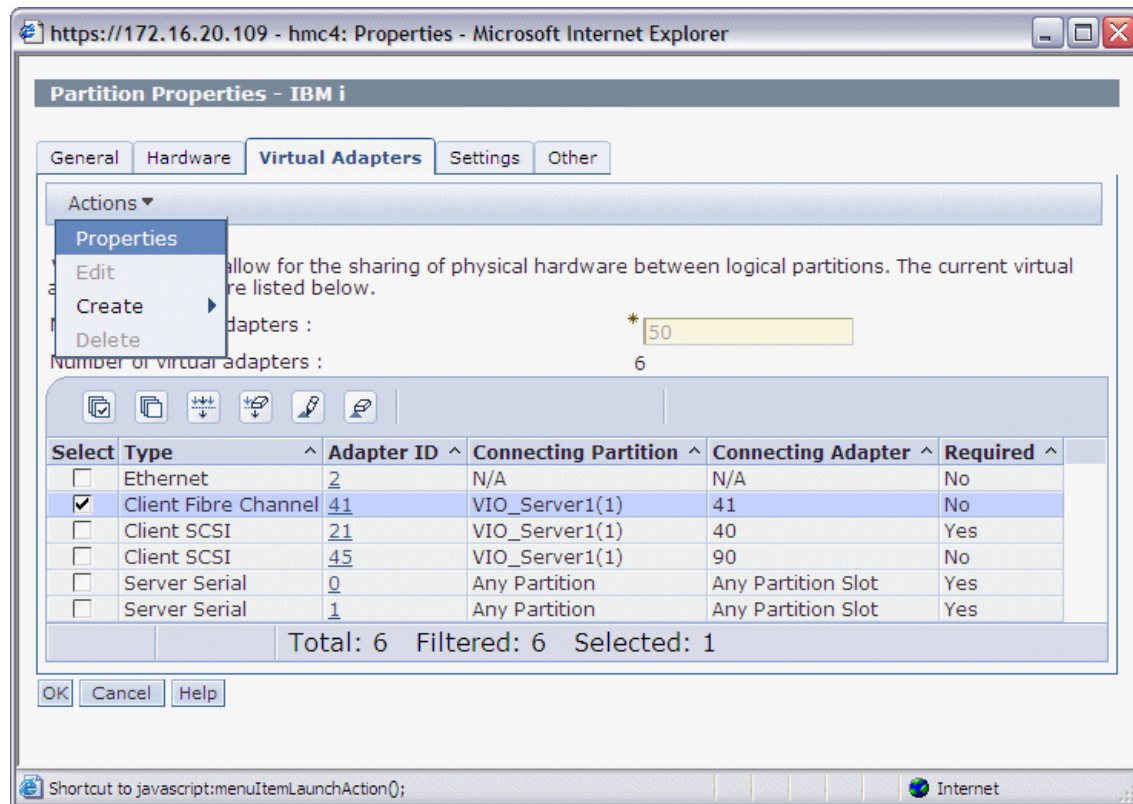

Figure 16-22 Select virtual Fibre Channel client adapter properties
- i. Select the appropriate virtual I/O client partition, then from the task popup-menu click **Properties**. Expand the **Virtual Adapters** tab, select the Client Fibre Channel client adapter and then select **Actions** → **Properties** to list the properties of the virtual Fibre Channel client adapter, as shown in Figure 16-22.